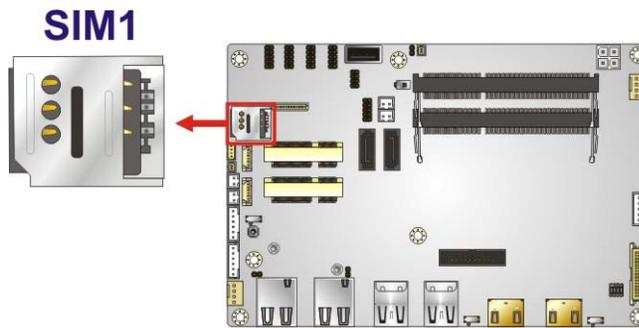

Figure 4-24: SIM Card Slot Location
- CN Location: See **Figure 4-24**